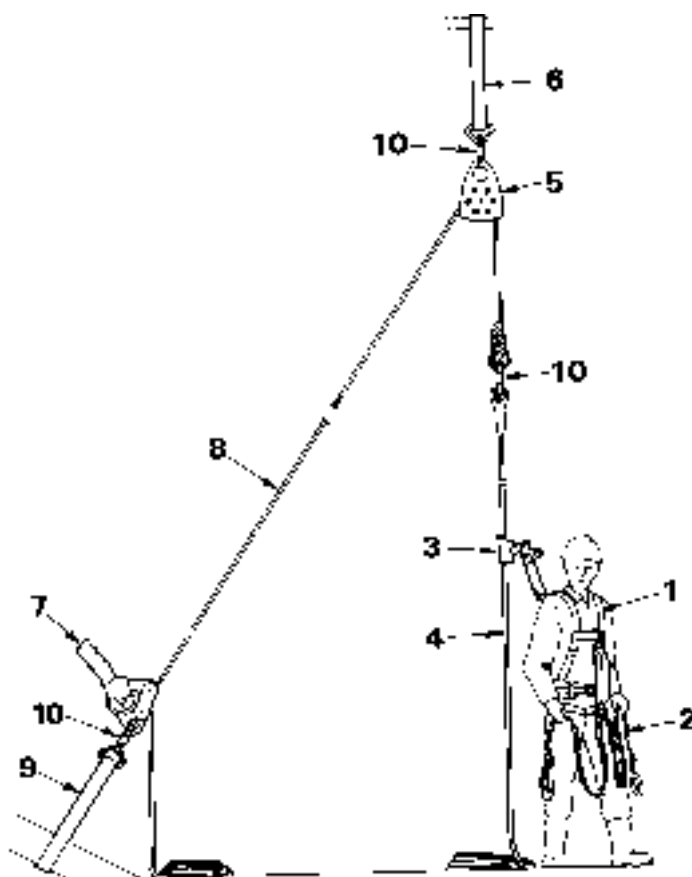

Fig 1
SYSTEM COMPONENTS (Fig 1)
- 14- Using the fitted connector attach the descender unit to a suitable anchor point capable of withstanding a force of 12KN. The descender unit may be directly connected to the anchor point or, optionally (see Fig 1) a sling may be used.